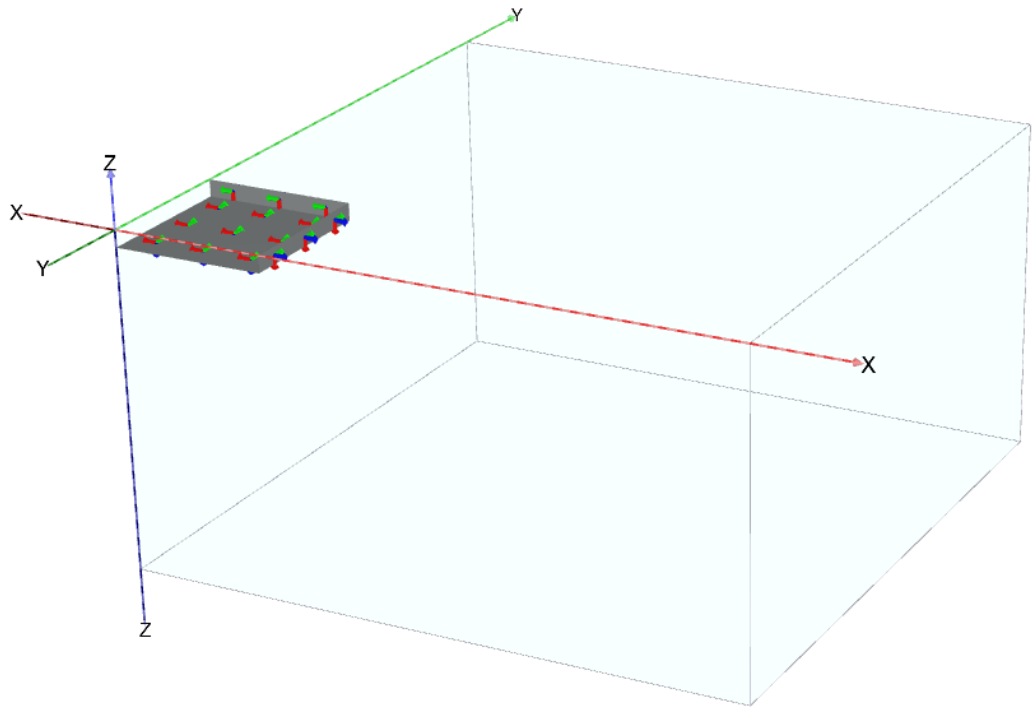

Figure 1-21: Location of plates in the project
- 7 Delete the two vertical surfaces at the model boundaries. Subsequently, assign plates to the two vertical basement surfaces inside the model. Figure 1-21 \(p. 30\) shows a view of the basement and wall plates.
Note: To visualise the local axes displayed in Figure 1-21 \(p. 30\) in the menu bar select **Options > Show local axes > Show local axes on surfaces with structures**.